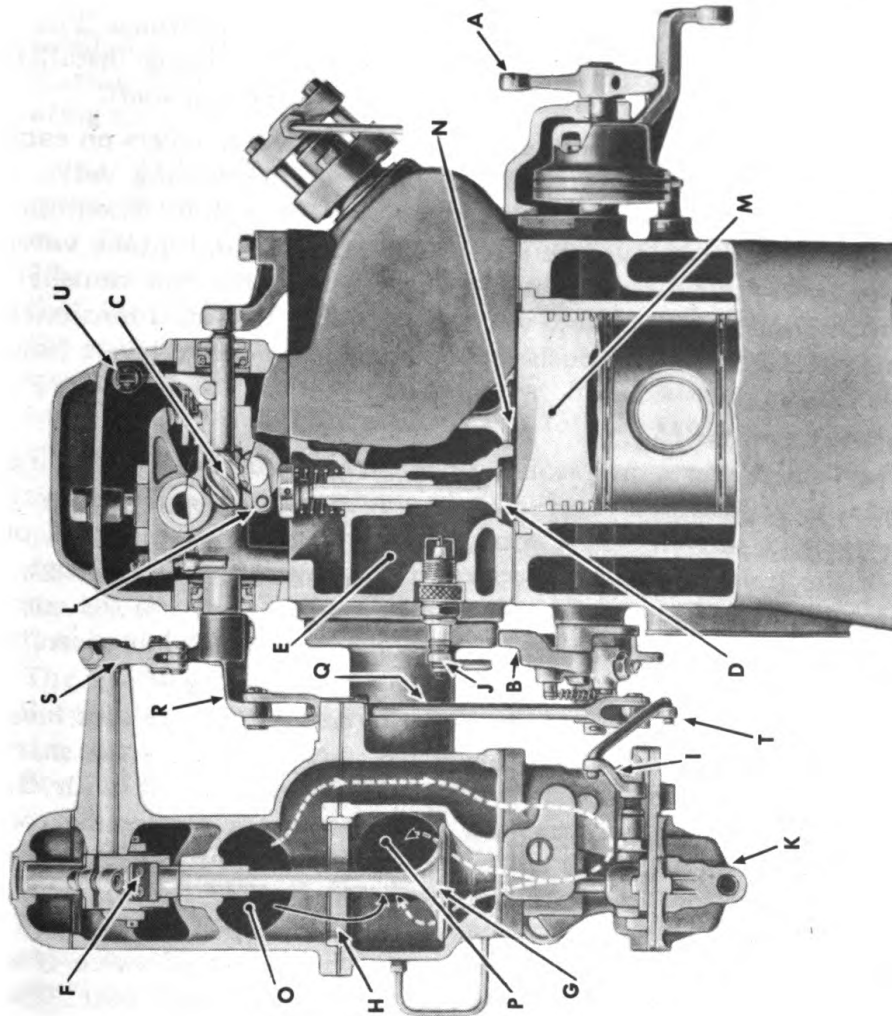

Figure 9—Starting System
l. **Starting System** (fig. 9).
(1) The vehicle starts on gasoline as a conventional gasoline engine. After a minute or two of operation it is converted to the Diesel cycle and operates as a full Diesel. A compression release lever mounted on the dash of the tractor allows the operator to convert the Diesel engine to the gasoline cycle. This is done simply by pulling down on the compression release lever. A number of things which will be explained in the following paragraphs take place when this conversion is made.
(2) When the operator pulls down on the compression release lever on the dash, the cross shaft operating lever (A) turns the cross shaft, which operates the cross shaft jaw lever (B), engaging it with the operating jaw (T). The operating jaw (T), through a connecting rod, releases the connecting link and shifts the carburetor shut-off lever (I), allowing gasoline to flow to the carburetor when starting the engine. At the same time that this operation takes place, the operating jaw (T) moves the operating rod (Q) which actuates the starting valve cross shaft lever (R). The starting valve operating cross shaft lever (R) turns the starting valve operating cross shaft (C) which operates the